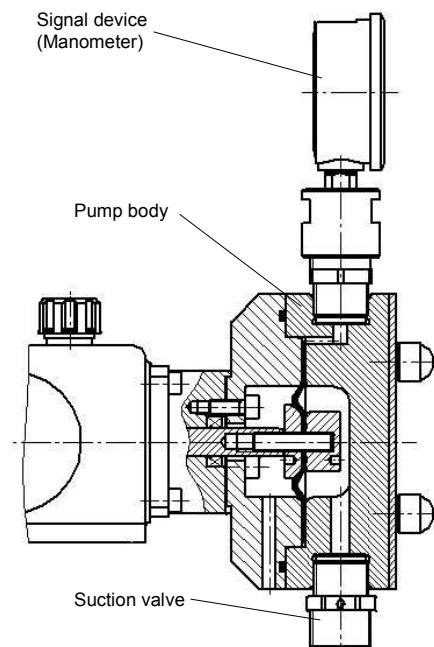

Fig. 41
- Screw in the signal device (see Fig. 41).